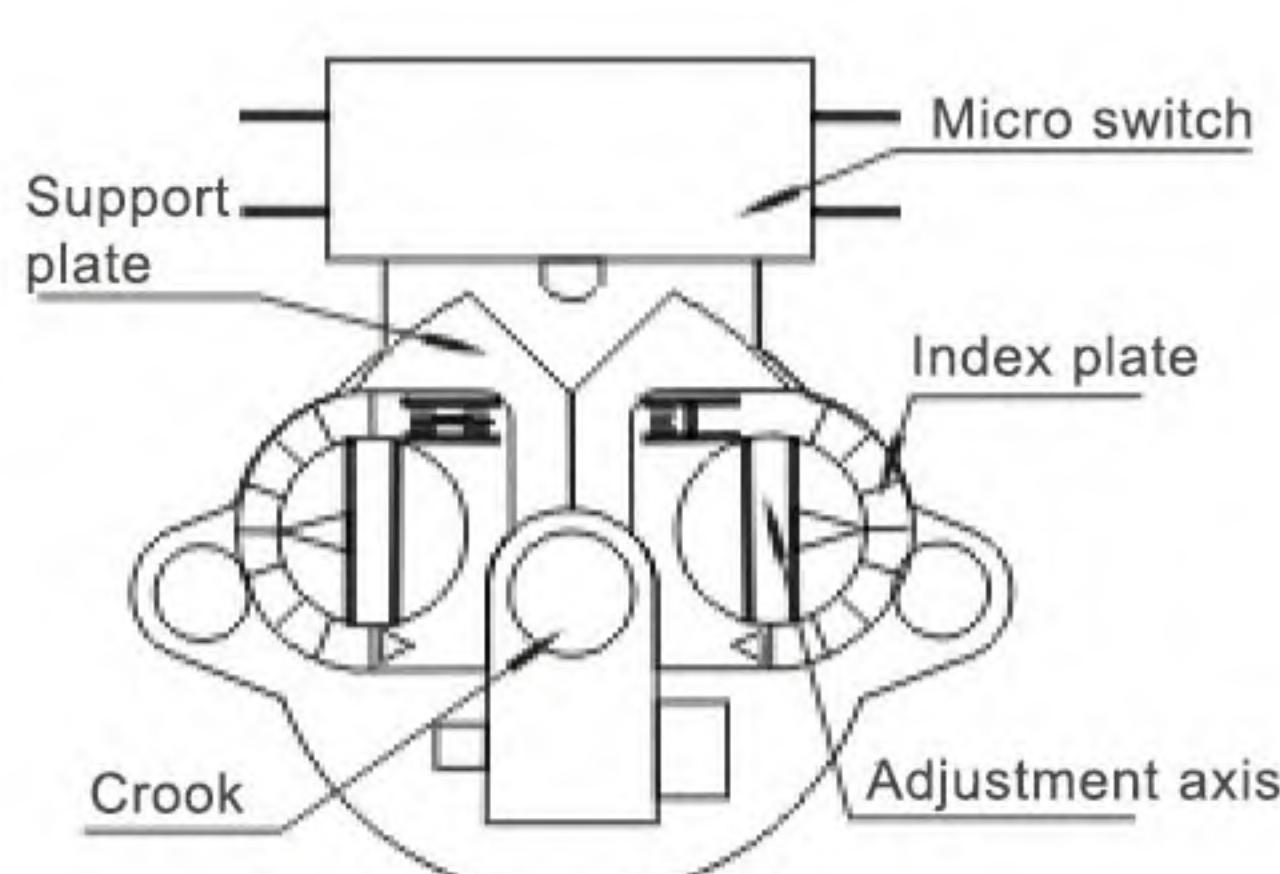

Figure 2.1 Torque Control Mechanism
- Torque control mechanism (Figure 2.1): Composed of crank, stopper, cam index plate-support plate and micro switch. When the output shaft receives a certain resistance torque, the worm will not only rotate, but also produce axial displacement, drives the crank to rotate, and at the same time causes the stopper to produce an angular displacement, thereby approaching the cam and lifting the support plate. When the torque on the output shaft increases to a predetermined value, the support plate is lifted until the switch is completely activated, the power supply is cut off, and the motor stops to realize the control of the output torque of the electric device.